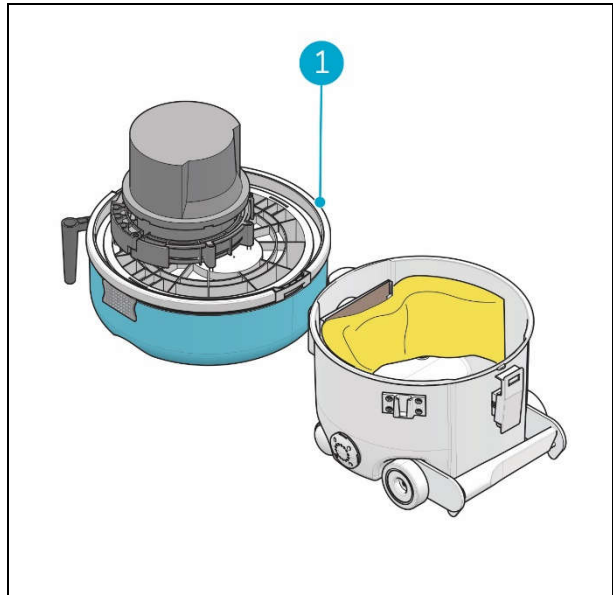

Figure 11
5. Place the head upside down, on an even surface (fig 11, pos 1).